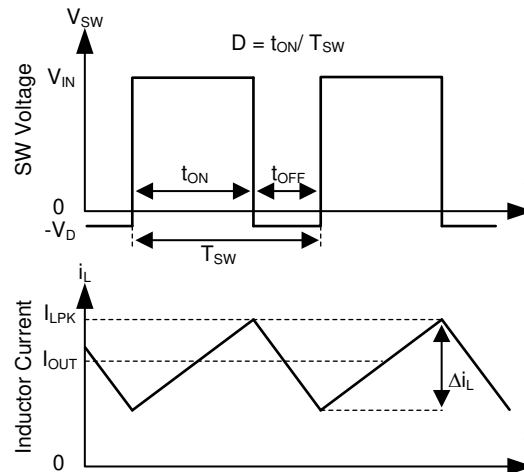

图 7-1. SW Node and Inductor Current Waveforms in Continuous Conduction Mode (CCM)
The following operating description of the LMR23625 refers to § 7.2 and to the waveforms in 图 7-1. The LMR23625 device is a step-down synchronous buck regulator with integrated high-side (HS) and low-side (LS) switches (synchronous rectifier). The device supplies a regulated output voltage by turning on the HS and LS